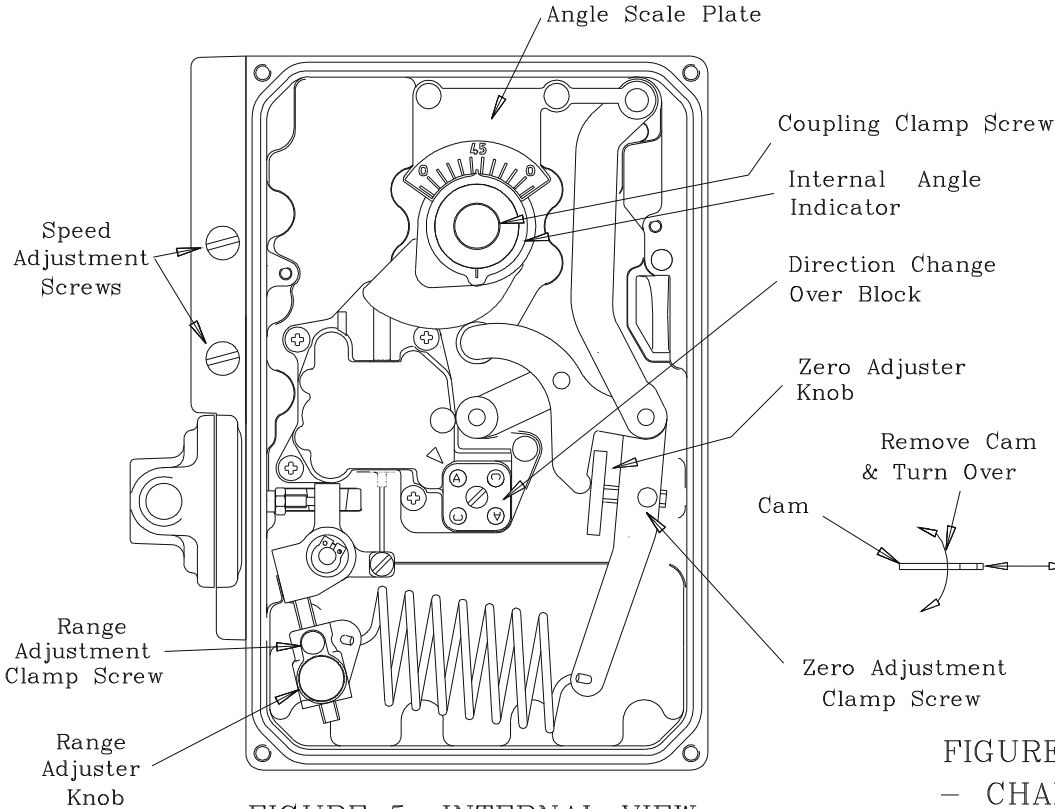

FIGURE 5. INTERNAL VIEW
4.1.2 Remove positioner cover and undo the two M4 screws retaining the red angle scale plate and remove, as shown in Figure 5. Loosen the central coupling screw sufficiently to draw the coupling off the actuator square.